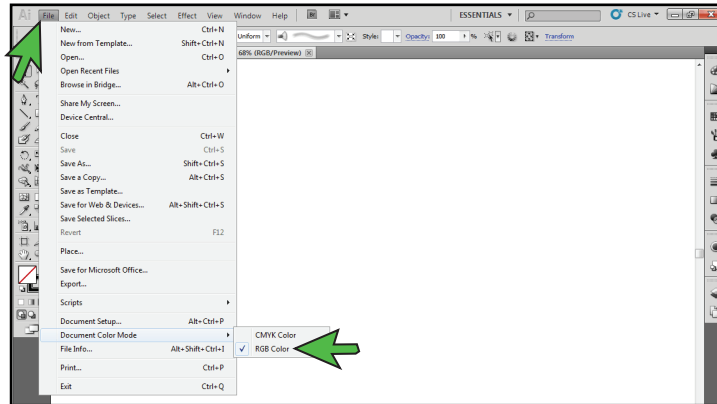

FIGURE 5
- Once an image has been opened or imported in Illustrator, you will need to ensure that RGB color mode has been selected. In the menu bar, click **File > Document Color Mode > RGB Color**. A check mark should now be visible beside **RGB Color** (see *FIGURE 5*).